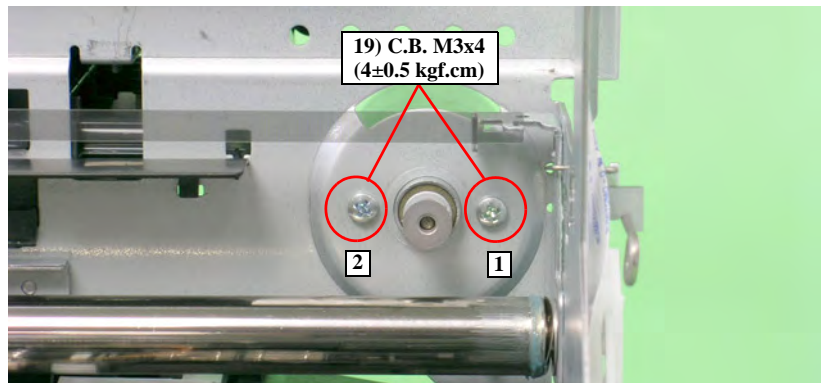

Figure 4-150. Removing the CR Motor
- Tighten the screws in the order shown in Figure 4-150